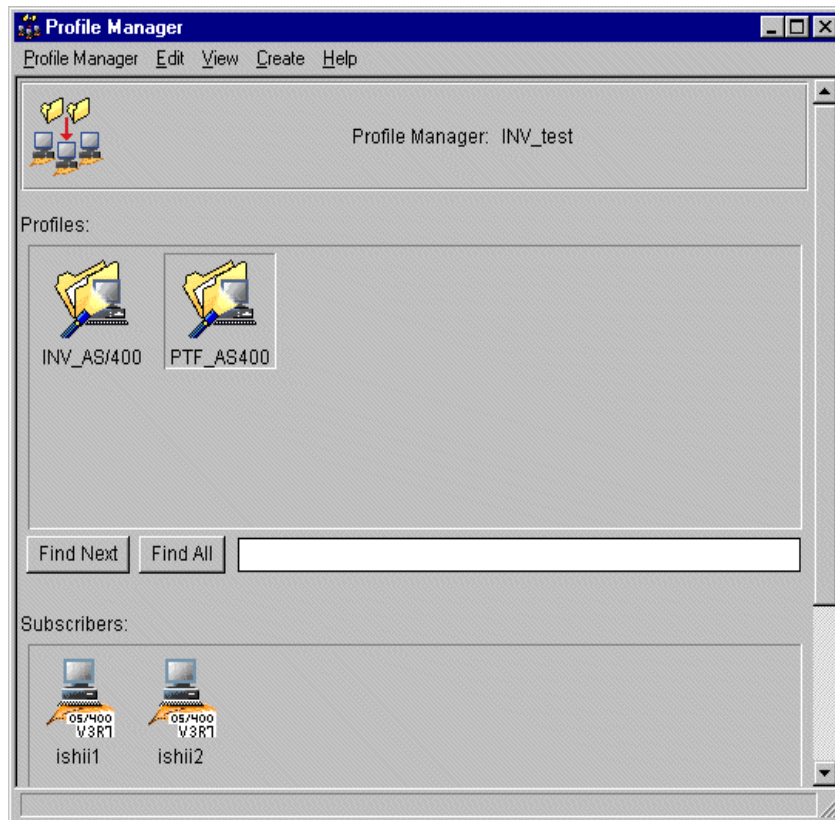

Figure 325. Creating a new inventory profile for AS/400 PTFs
2. Create a new inventory profile in the Profile Manager screen as shown in Figure 325 on page 491.